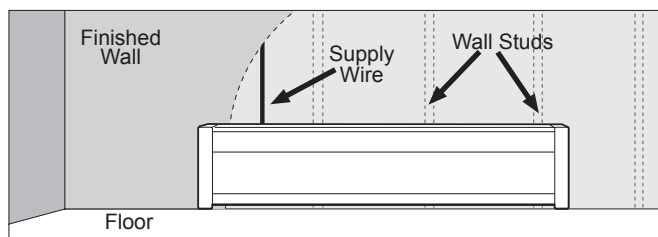

Figure 4
1. Locate wall studs closest to supply wires and position heater (See Figure 4). NOTE: Wire connection is from left end only on standard models.